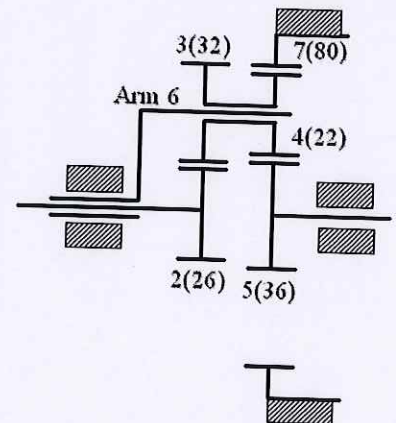

Figure 4 Planetary gear train
4. For a planetary gear train as shown in figure 4, if $\omega_2=1800\text{rpm}$ (CCW), please find the rotation speed of gear 5 and its rotation direction. (20%)